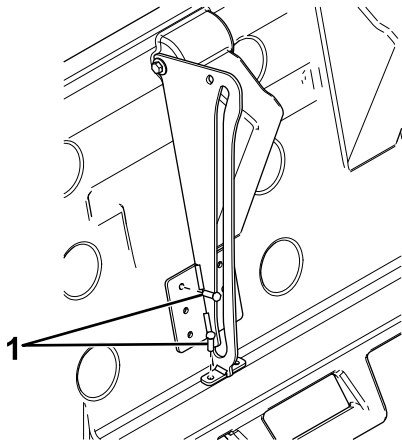

Figure 4
- Push the track flush against the lip of the cover and secure it in place with 2 lag screws as shown in Figure 4.